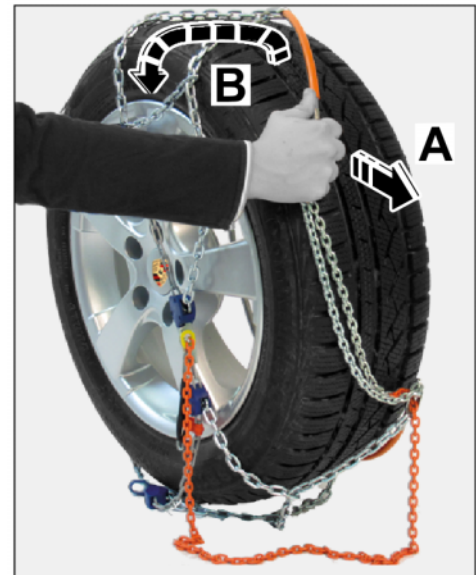

Figure 19
3.4.1 If the end of the spring steel clip is visible: Pull the ends of the spring steel clip apart as far as possible (⇒ *Figure 19-A-*) and pull the snow chain off the wheel from above (⇒ *Figure 19-B-*).